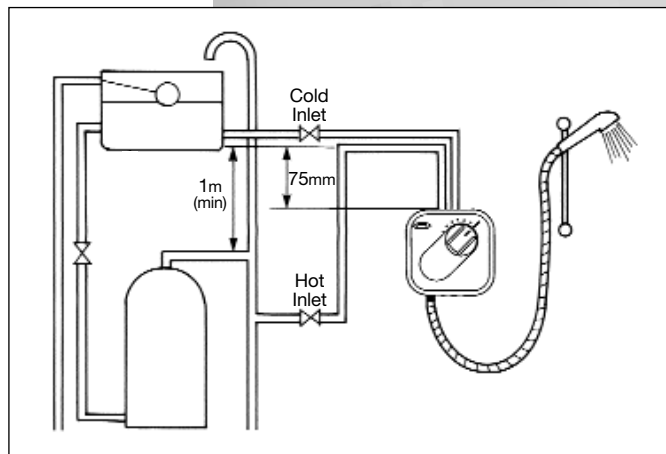

Fig.1. Typical Gravity Shower Installation
- For correct operation of the NewTeam 1000 Plus Power Shower both hot and cold water supplies to the unit must be gravity fed, at nominally equal pressures, from a cold water storage tank and hot water storage cylinder, Fig.1.
Procedure - Plumbing Connections: Fig.1.